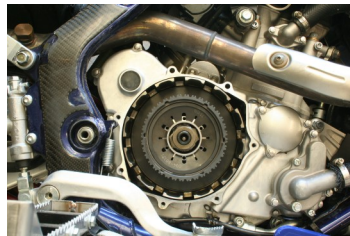

Figure 3
- Install main disk spring, locking ring, and circlip (Figure 3)